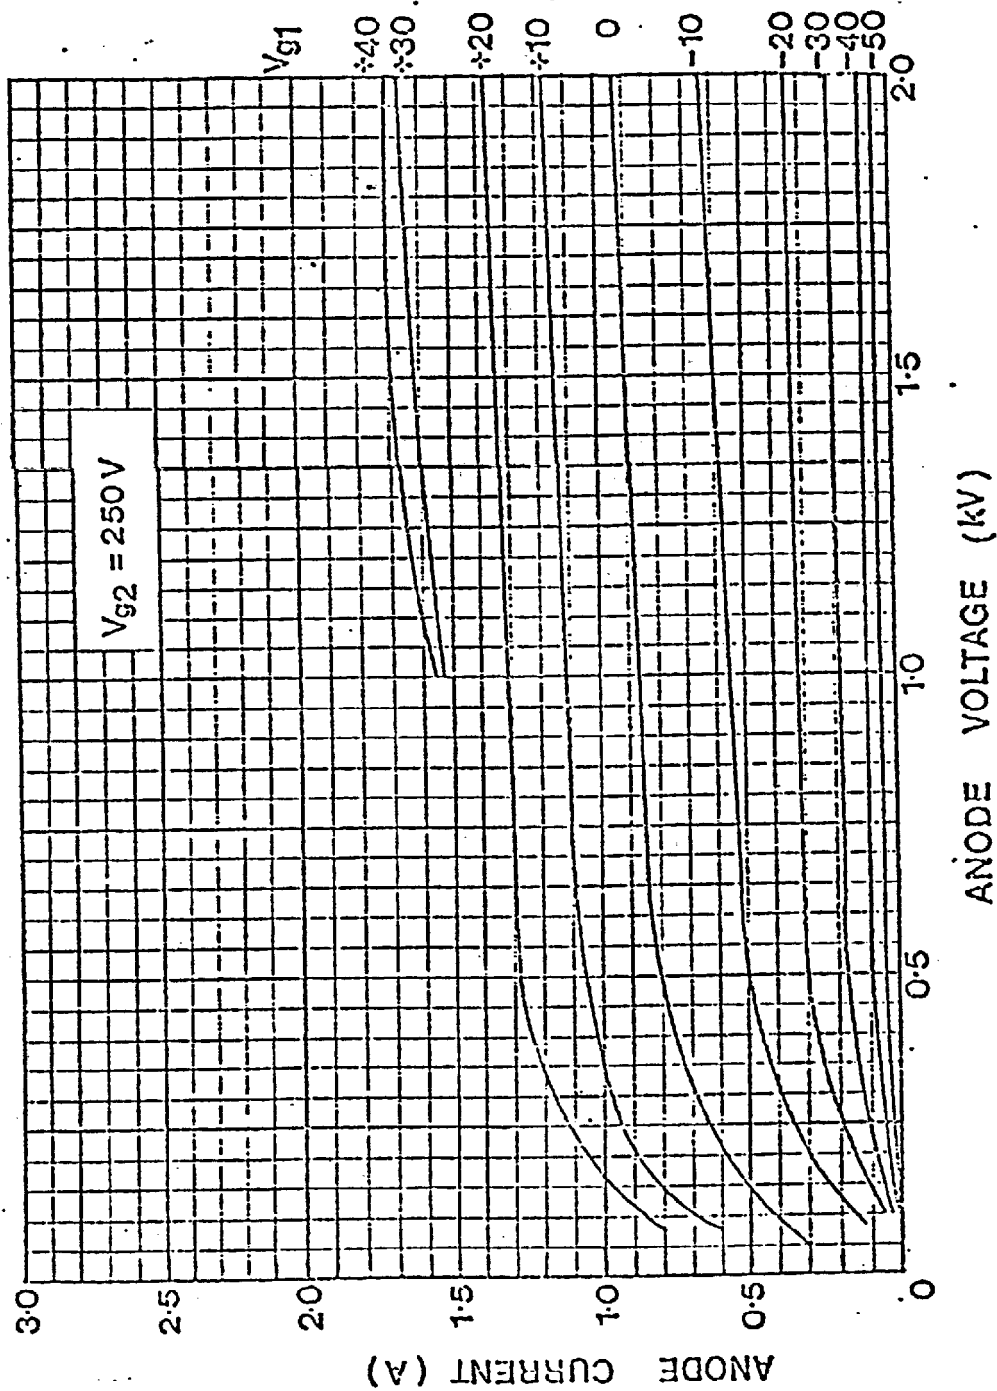

Fig.1
- (1) See Figs. 1, 2 and 3 for curves of anode current as a function of anode voltage for stated values of control grid and screen grid voltages.